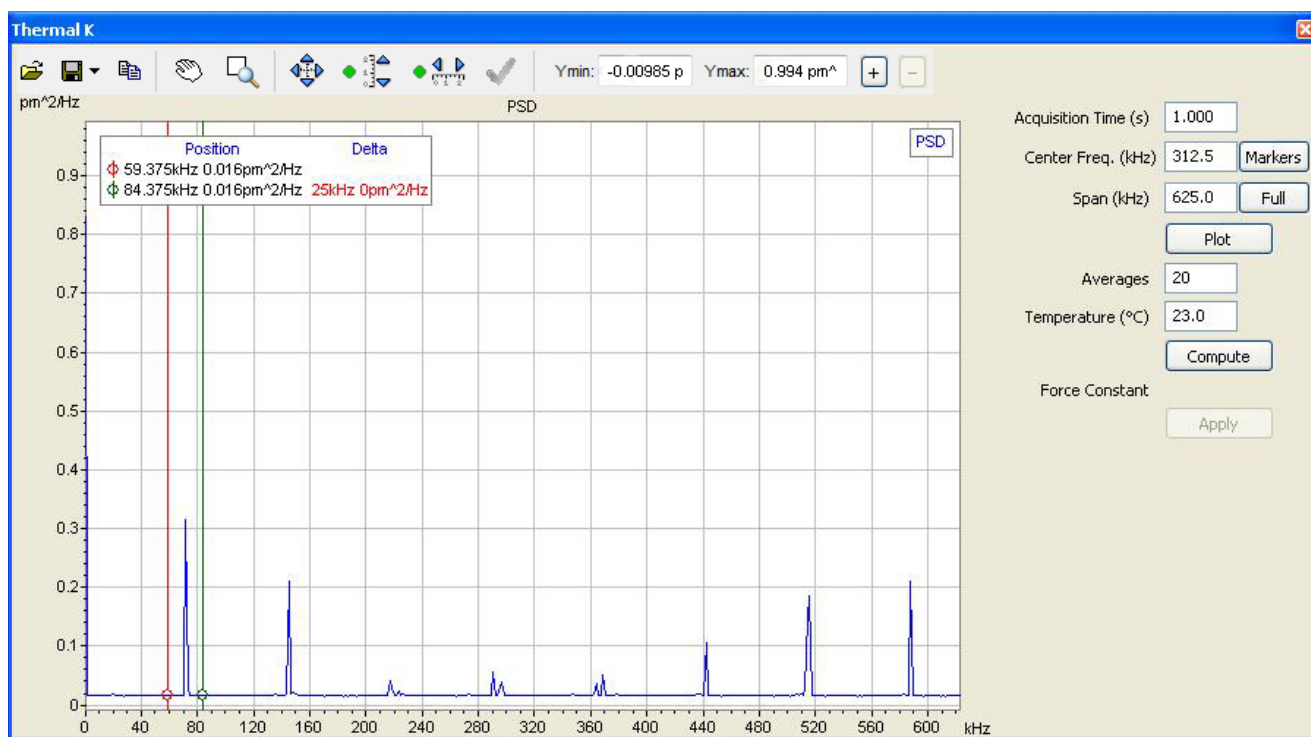

Figure 190 Thermal K PSD plot with markers set to define frequency range
- 14 A Thermal K PSD plot (**Figure 190**) should appear.